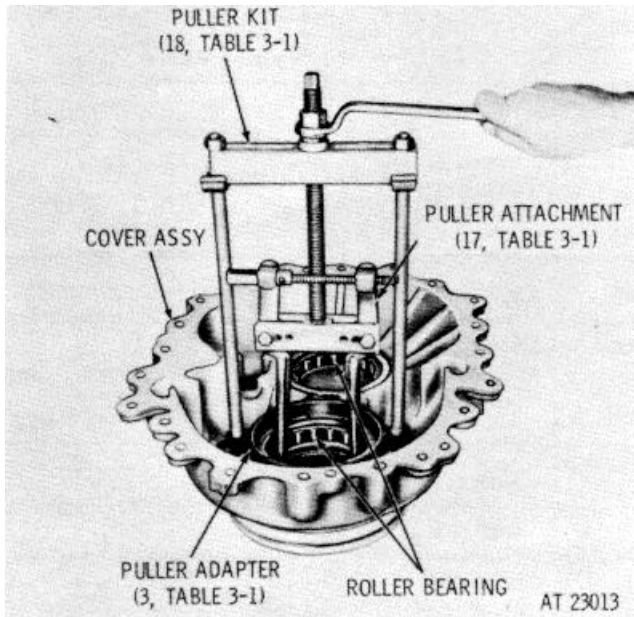

Figure 7-48. Removing roller bearing from end cover assembly.
a. Do not remove oil seal (78) from output end cover (81), unless replacement is necessary. If necessary, remove the seal.
b. Do not remove sleeve (80) from output end cover (81). unless replacement is necessary. If necessary, remove the sleeve.
c. Do not remove reduction drive and driven gear roller bearings (69 and 85) from output end cover (81), unless replacement is necessary. If necessary, flatten tab lockwasher (87) and remove bolt (88), tab lockwasher (87) and retaining plate (86).
d. Using adapter (3, table 3-1), puller attachment (17, table 3-1), and puller kit (18, table 3-1), remove the reduction drive and driven gear roller bearings (fig. 7-48).
a. Do not remove oil seal (53) from output end cover (46) unless replacement is necessary. If necessary, remove the seal.
b. Do not remove sleeve (49) from output end cover (46) unless replacement is necessary. If necessary, remove the sleeve.
c. Do not remove two speedometer drive cover mounting pad dowel pins (50) unless replacement is necessary. If necessary, remove the dowel pins.
d. Do not remove four screw thread inserts (51) and four staking pins (52) unless replacement is necessary. Do not remove two screw thread inserts (47) and two staking pins (48) unless replacement is necessary. If necessary, remove the inserts and pins.
e. Do not remove reduction drive and driven gear roller bearing (15 and 40) from output end cover (46), unless replacement is necessary. If necessary, flatten tab lockwasher (42) and remove bolt (41), tab lockwasher (42) and retaining plate (43).
f. Using adapter (3, table 3-1), puller attachment (17, table 3-1), and puller kit (18, table 3-1), remove the reduction drive and driven gear roller bearings (fig. 7-48).
g. Do not remove oil seal (6, FO-8) from speedometer drive cover (4), unless replacement is necessary. If necessary, remove the oil seal.